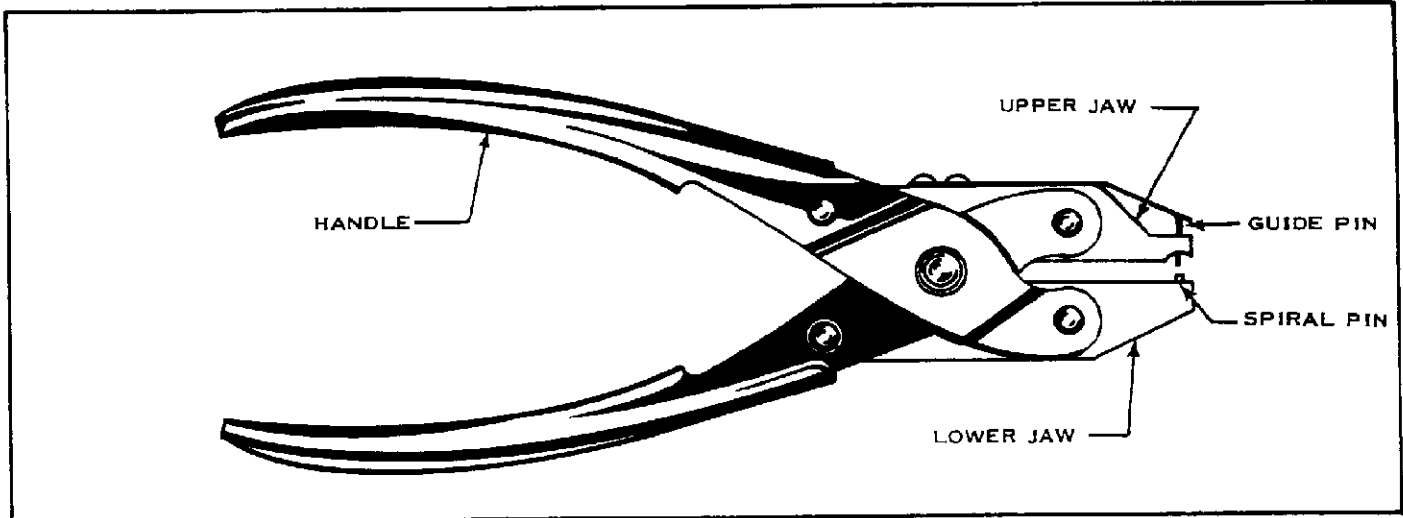

Fig. 1
1. This Tool (see Figure 1) is used to assemble Spiral Pins into A-MP Turnable Jackscrews for Series "M", Miniature DUALATCH* and COAXICON* Connectors. The Spiral Pin holds the Jackscrew Tip in the Jackscrew Body. There are two Methods of Assembly. Method I is used in all cases in which Method II does not apply. Method II is used only to assemble Jackscrews which will be used to attach Strain Relief Clamps to Connector Blocks.
- Place Spiral Pin into hole in Lower Jaw of Tool. See Figure 1.